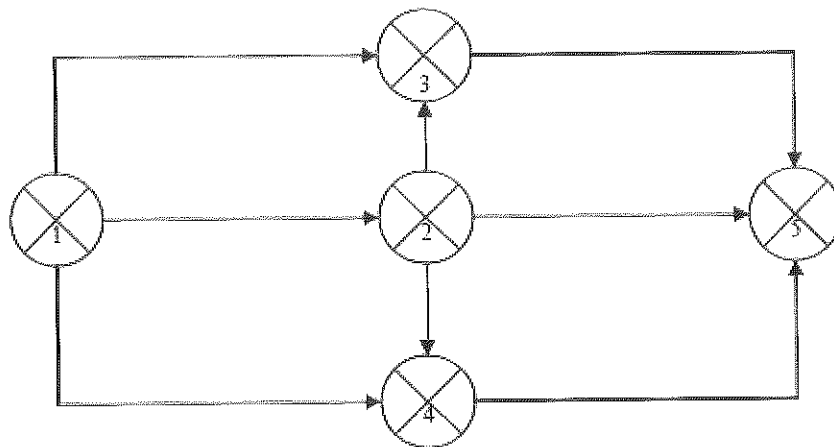

Figure 4
- (i) Determine the minimum cost of completing the project in figure 4 within the shortest possible duration. Time/cost data for the project is shown in table 4.